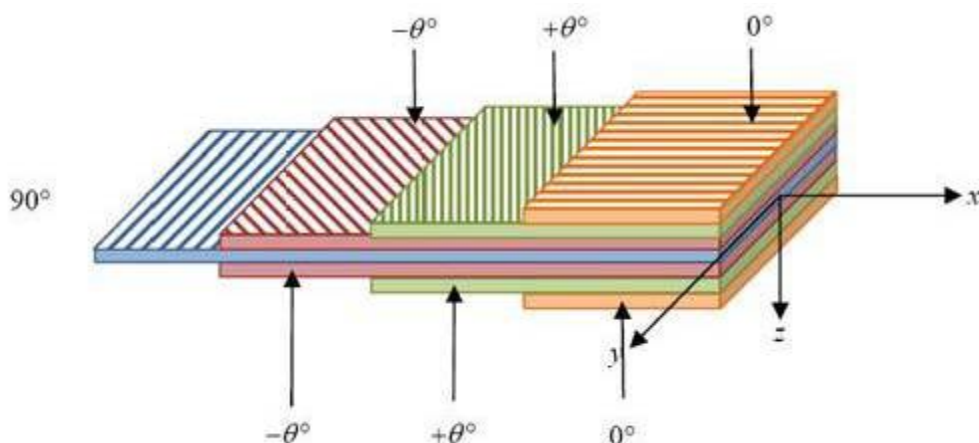

**Figure 1.13: Types of weave**
- Different patterns of weaving are shown in Figure 1.13.
Typical weaving patterns are shown in Figure 1.13.